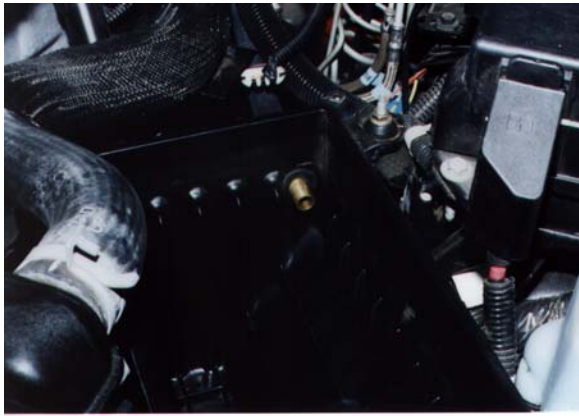

Figure 5.
Step 10. Drill a 3/4" hole in the factory air filter housing. Make sure to place the hole low enough so that it does not interfere with the air filter. See figure 5 for placement. Install the provided grommet and hose adapter as shown in figure 5.